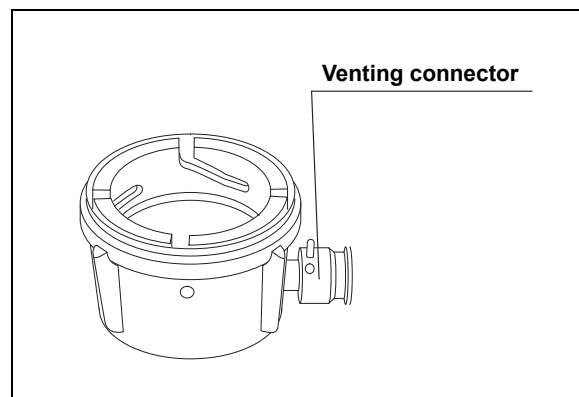

Figure 3.2
The water-resistant cap is attached to the electrical connector on the endoscope to protect the connector from water penetration during reprocessing. For leakage testing, the venting connector on the water-resistant cap must be connected to the leakage tester (see Figure 3.2).
1. Confirm that the inside of the water-resistant cap is dry and free from debris (see Figure 3.2).